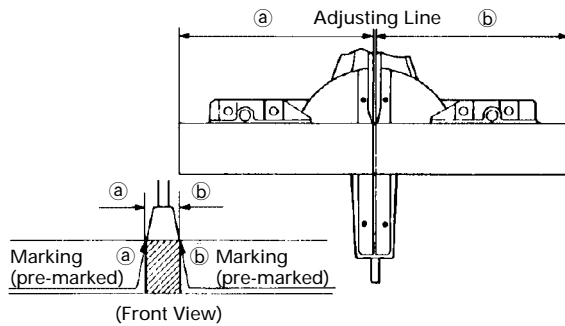

Fig. 25
- (1) As shown in Fig. 25 the width of the saw blade is the width of the cut. Therefore, slide the workpiece to the right (viewed from the operator's position) when length ⑥ is desired, or to the left when length ⑤ is desired.